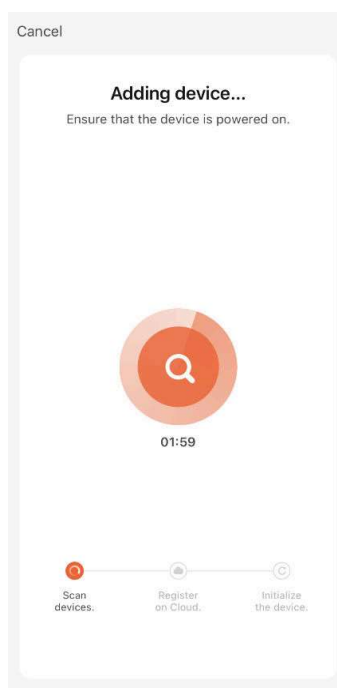

FIG.6
4. The APP will scan (FIG.6) and add the fireplace to APP (FIG.7) automatically. Please make sure the Wi-fi account and password you set are correct and Wi-fi signal is good.